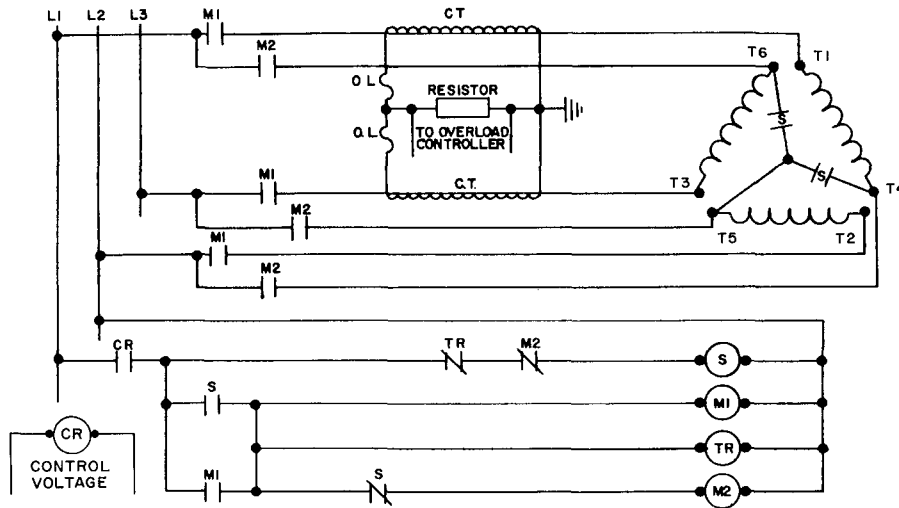

Fig. 5-7 - Star-Delta Circuit Diagram (Open Transition up to 600 V)
Starter circuit diagrams are shown in Fig. 5-7 and 5-8 for Star-Delta open and closed transition (low-voltage application) type starters. These diagrams are intended to show starting sequence only and not to represent the actual wiring of any starter. Refer to actual starter manufacturer's wiring drawings for complete details.
Control relay (CR) Fig. 5-7, is energized when the start button is closed and operating and safety controls are satisfied. When relay contact (CR) closes, relay (S) is energized. This closes the main contacts to form the common center of the "star" circuit in the starter. Auxiliary (S) contacts energize coils (M1) and (TR) and open the circuit to coil (M2). Coil (M1) closes main contacts which supply line voltage to one side of each motor winding. This completes the "star" circuit so the motor starts with a low current inrush.